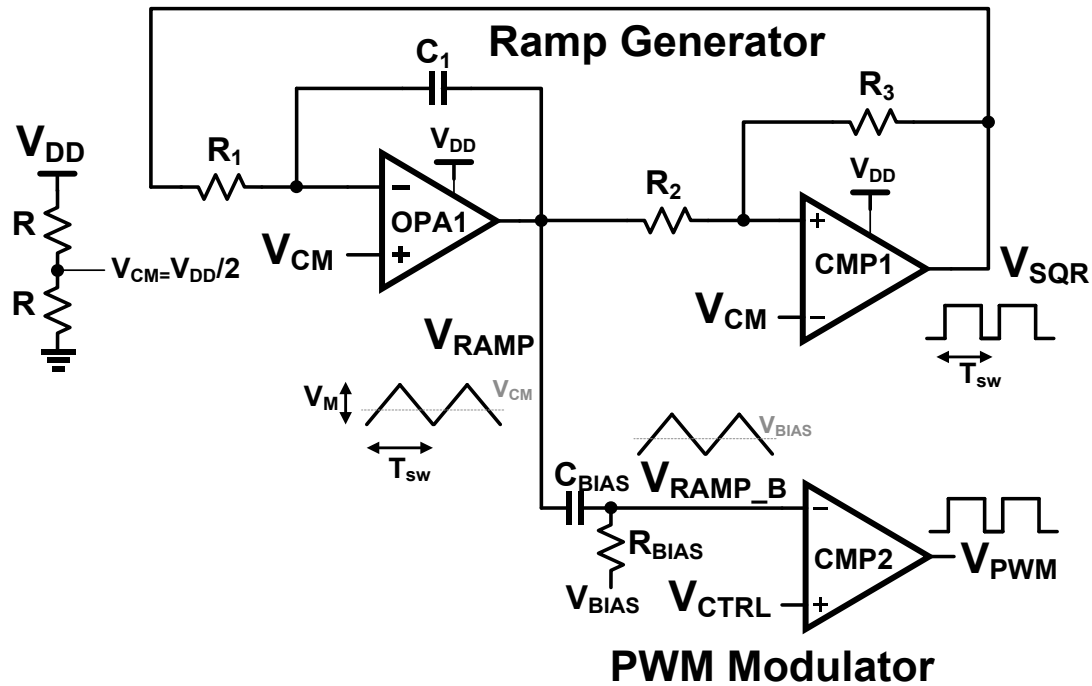

Figure 2-14 Ramp Generator Circuit
1. For the ramp generator circuit in Figure 2-14, derive the expression for ramp amplitude (Equation 2-9) and frequency (Equation 2-10).
2. Simulate the ramp generator circuit shown in Figure 2-14 and verify the expressions in Equation 2-9 and Equation 2-10. Observe the effect of variation in  $R_1$ ,  $R_2$ ,  $R_3$  and  $C_1$  on ramp amplitude and frequency.